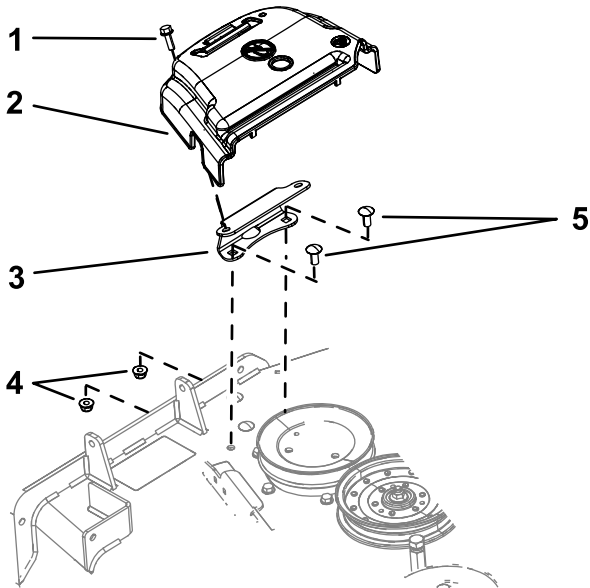

Figure 2
1. Rotate the bolt that secures the belt cover to the deck counterclockwise to loosen it (Figure 2).
2. Remove the OEM belt cover and bolt from the mounting bracket (Figure 2).
1. Remove the 2 bolts and 2 flange nuts that secure the cover mounting bracket to the deck (Figure 2).